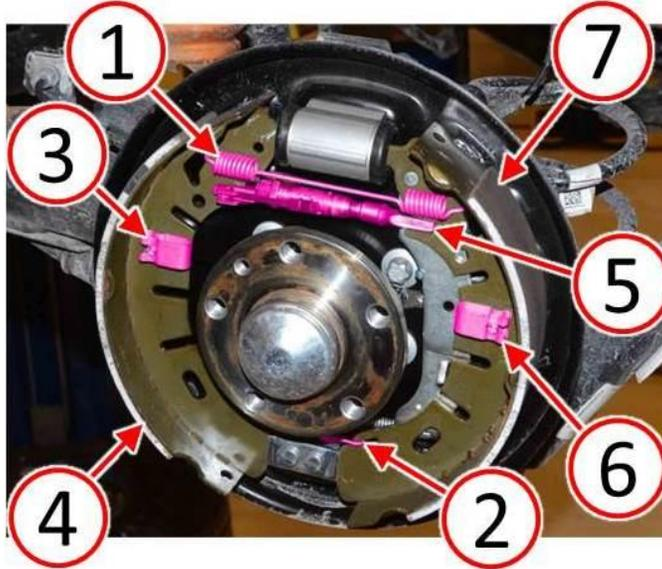

Fig. 8 Install Rear Brake Shoes
20. Connect the park brake cable to the NEW rear-facing brake shoe (7) (Fig. 8).
21. Install the NEW rear-facing brake shoe (7) and retaining clip (6) (Fig. 8).
22. Install the brake shoe adjuster (5) (Fig. 8).
23. Install the NEW front-facing brake shoe (4) and retaining clip (3) (Fig. 8).
24. Install the lower brake shoe return spring (2) and upper brake shoe return spring (1) (Fig. 8).